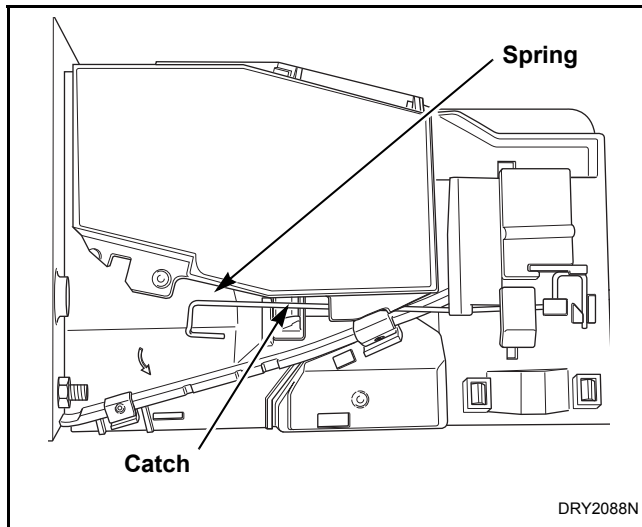

Figure 17
- Coin Drops with Old-Style Spring (refer to Figure 17):**
- (1) Move spring downward until cover catch is free. Refer to Figure 17.